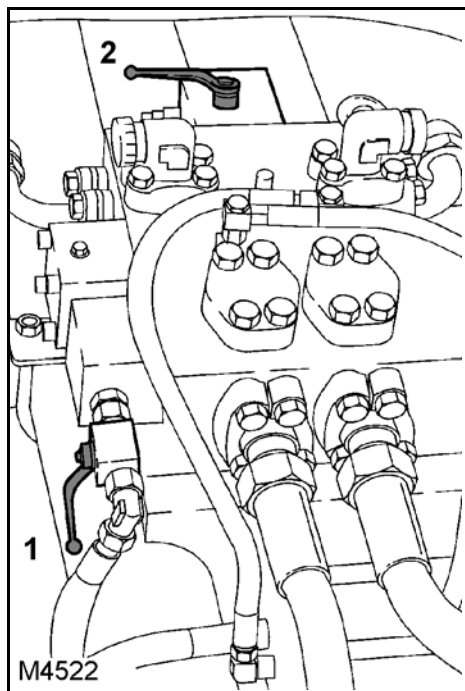

Fig. 333 Concrete pump control block
- Open the ball valve (1) (**Fig. 333**) on the concrete pump control block.